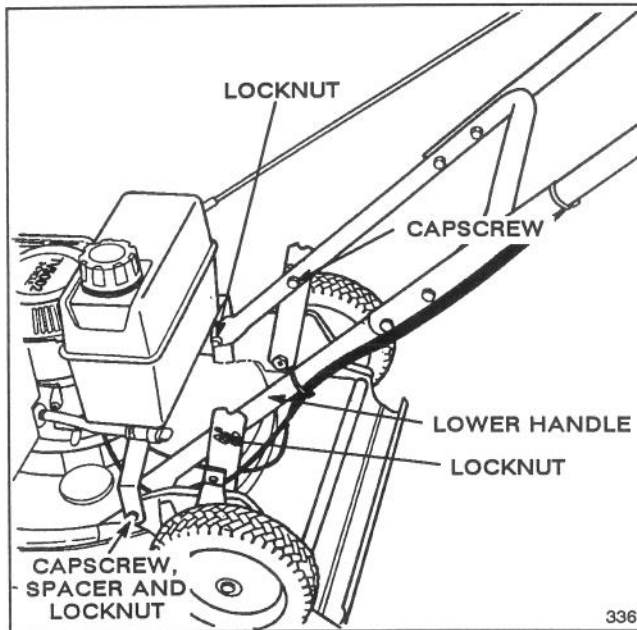

Figure 1
1. LOWER HANDLE (Fig. 1)—Mount lower handle against inside of deck with 5/16 - 18 x 2" lg. capscrews, spacers, and locknuts. Spacer fits between handle and mower housing.